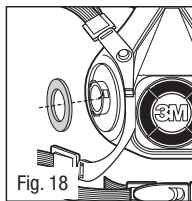

Fig. 18
1. Remove gaskets from facepiece inhalation port bayonet fittings (Fig.18).